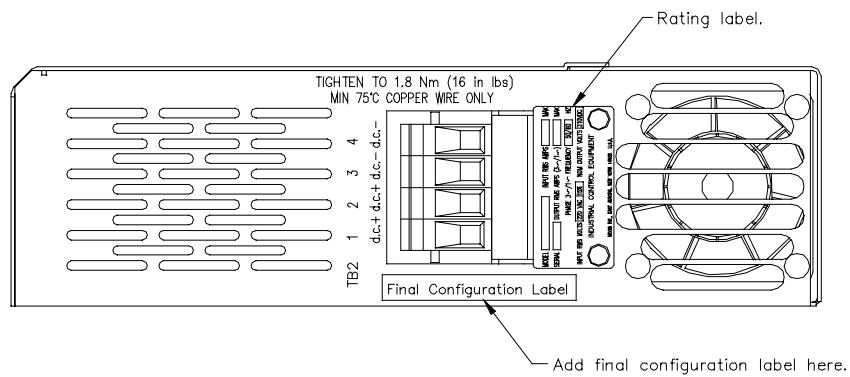

FIGURE 2.20 Final Configuration Label Mounting Location.
6. Place the supplied Final Configuration Label along the top of the housing beside TB2 as shown in FIGURE 2.20.